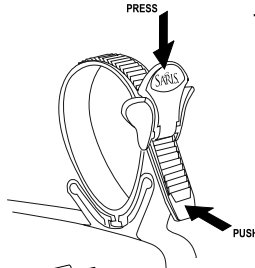

**Figure 7**
- Place bikes on carrier arms in bike supports, alternating direction of handlebars. Pull hold-down strap snug against **bike tube**. Rest **seat tube** against stabilizer and pull strap around tube as shown in *Fig 7*.